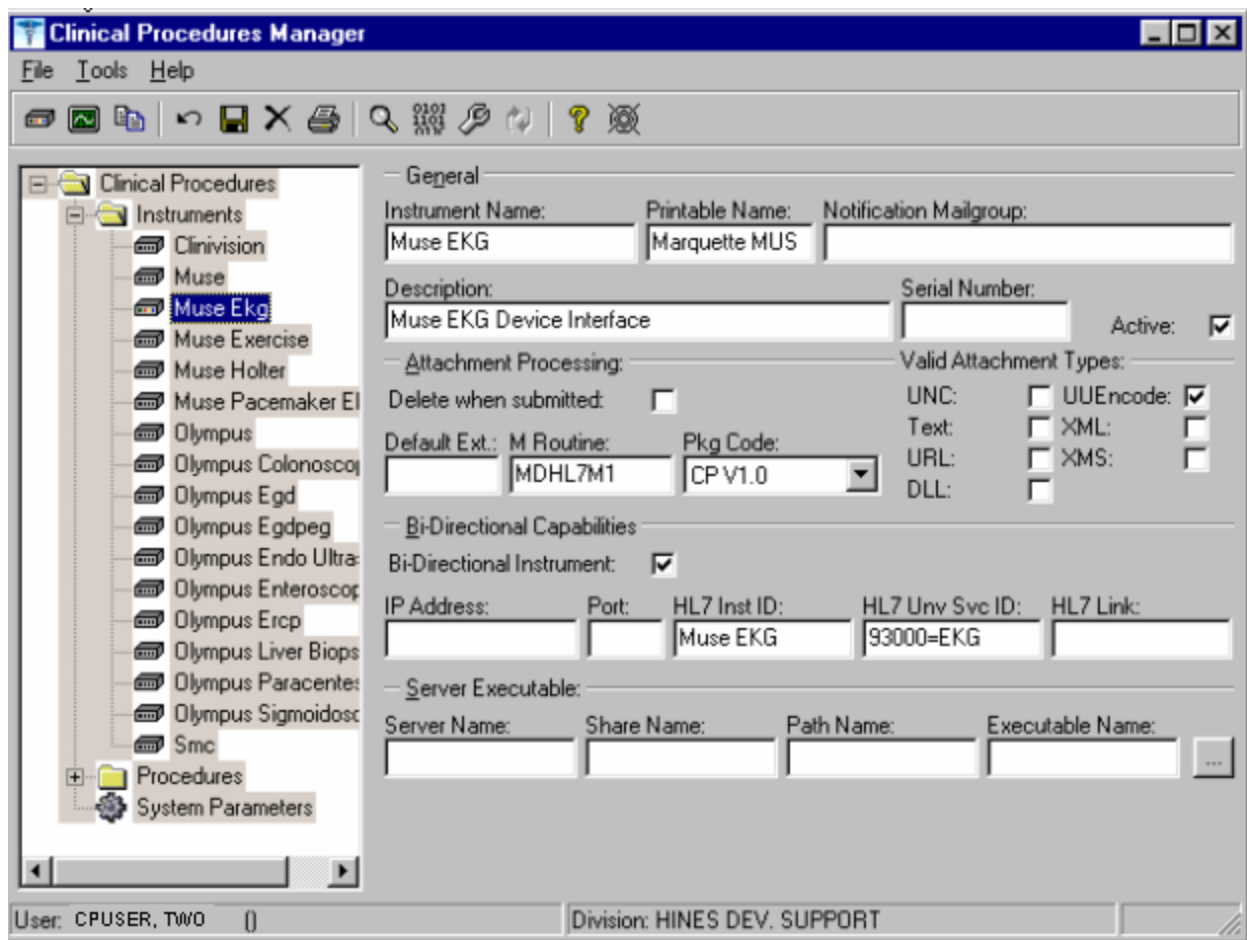

Figure 6-5
3. Click **OK**. The Edit screen is displayed. Figure 6-5 is the edit screen for automated instruments. The Automated Instrument Name that you just entered is displayed.